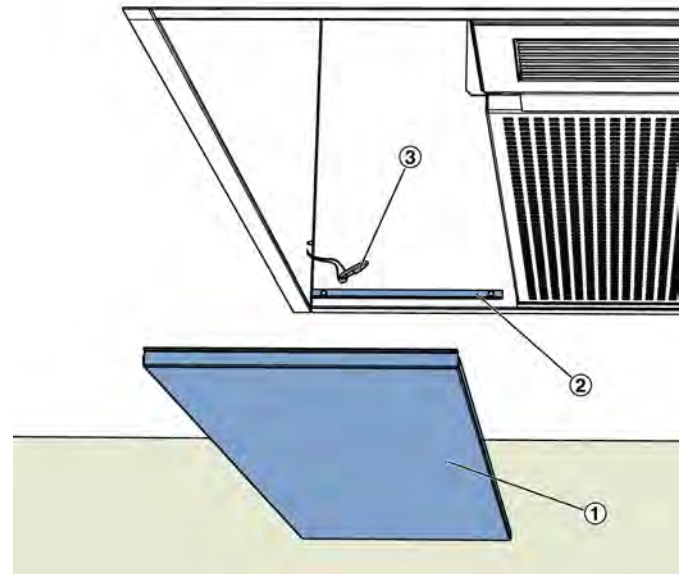

Fig. 48: Inserting the side panel
20. ▶ Hook the two side panels (Fig. 48 /1) onto the safety cables (Fig. 48 /3) and place them on the angle (Fig. 48 /3).